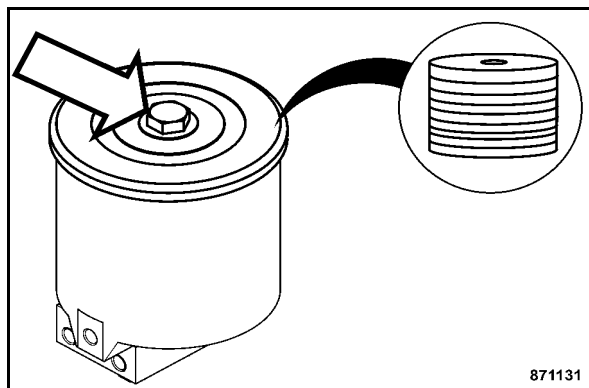

Fig. 163
- Unscrew the fastening screws (Fig. 163) and take off the cover.